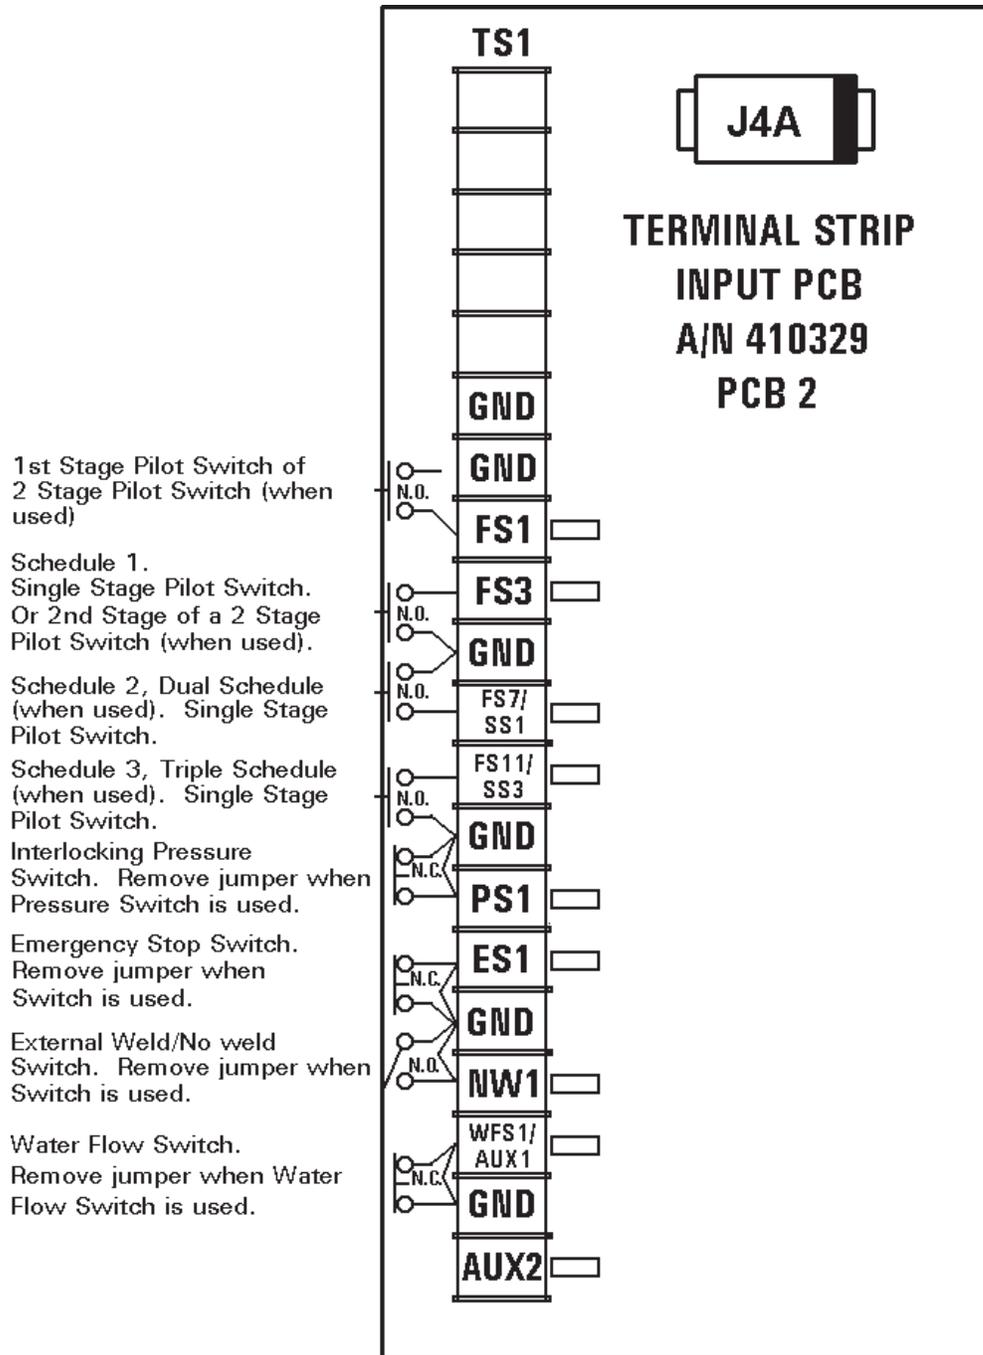

Figure 4-5. Terminal Strip Input Board
4.3.3 TERMINAL STRIP CONNECTIONS – See Figures 4-5, 4-6 and 4-7
4.3.3 TERMINAL STRIP CONNECTIONS (cont.) – See Figures 4-5, 4-6 and 4-7